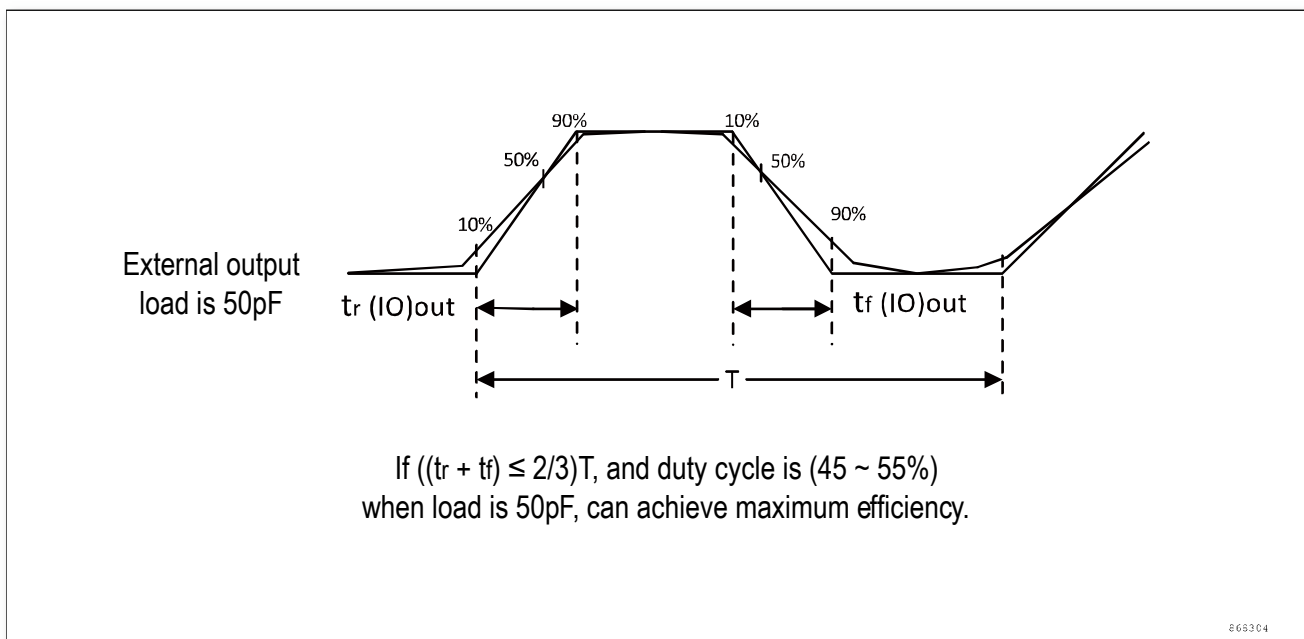

Figure 5-7 I/O AC characteristics
1. The maximum frequency is defined in Figure 5-7.